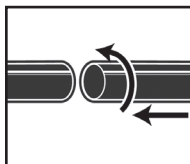

FIGURE 8
11. Attach the extension wands to the accessory end of the hose. Twist slightly to tighten the connection. **FIGURE 8.**
12. Attach one of the cleaning accessories (depending on your cleaning requirements) on the extension wands. Twist slightly to tighten the connection. **FIGURE 8.**